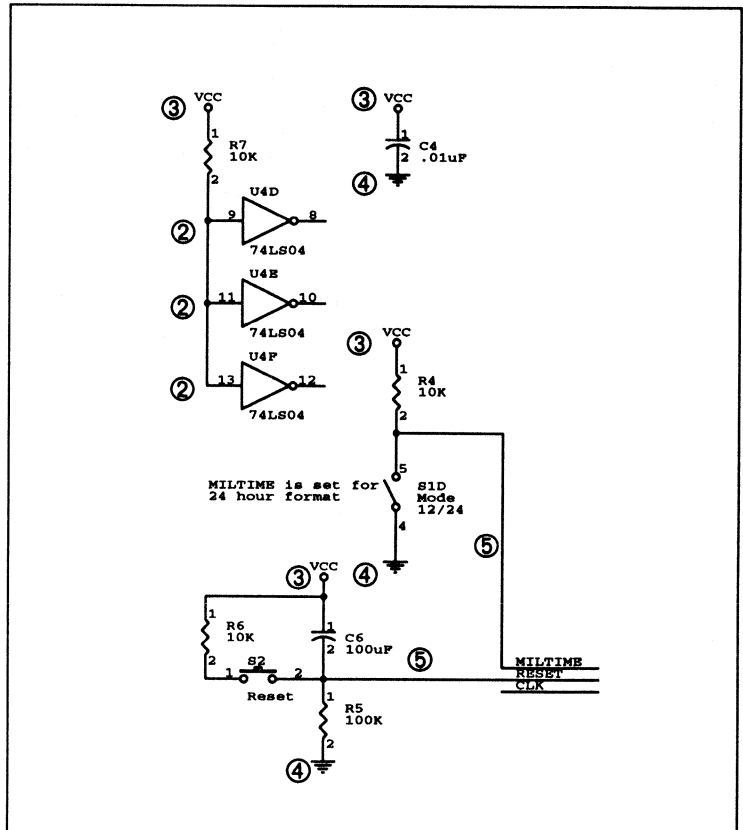

Figure 6-9. Inverters, power symbols, ground symbols, and wires to be placed. The callouts refer to the step numbers in this section.
There are also some leftover parts (from multiple-element parts) to be placed on the schematic. Figure 6-9 shows the arrangement of these parts.
Refer to figure 6-9 as you follow these steps:
2. Get the 74LS04 inverter from .\DCLOCK.LIB and place three copies at locations (1.00, 3.20), (1.00, 3.90), and (1.00, 4.60), as shown in figure 6-9.
5. Place wires to connect the remaining parts, as shown in figure 6-9. Be sure to connect the wires to the logic and display circuit at the two places shown in figure 6-9.
6. Inspect the wire intersections and use the **Place Junction** command to add junctions where required, as shown in figure 6-9.